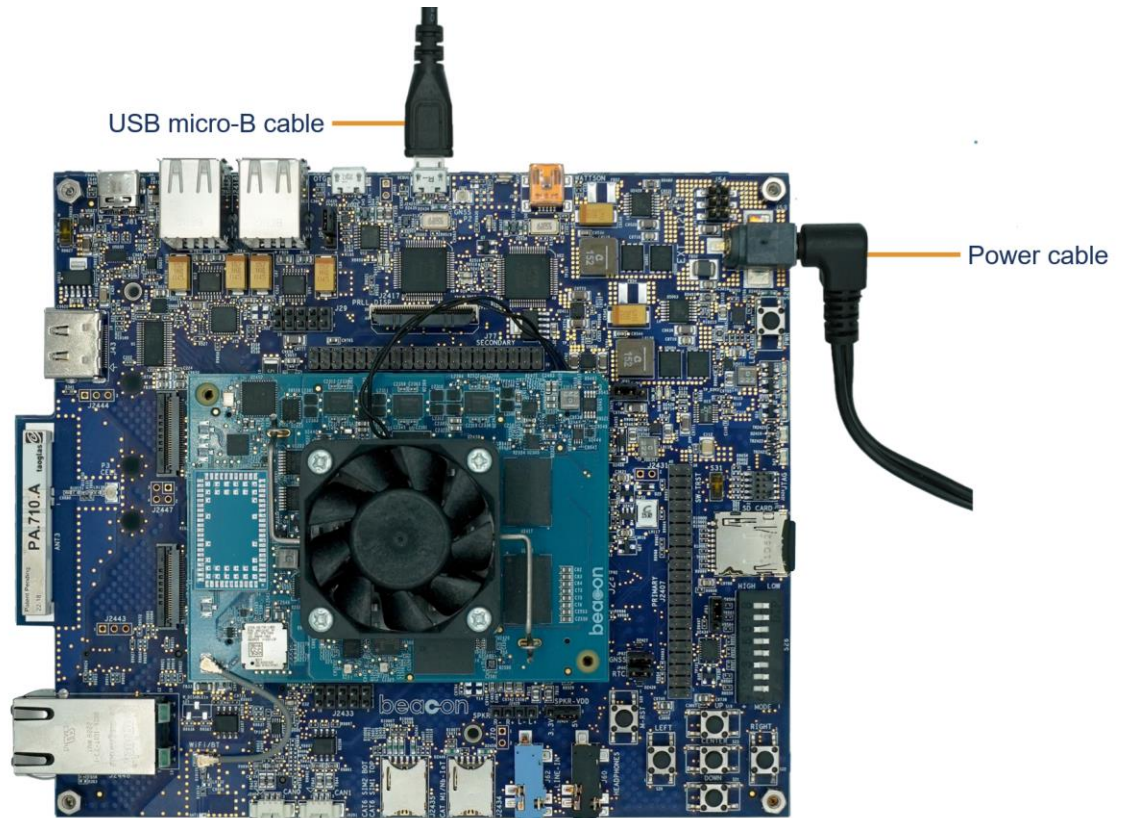

Figure 3: Baseboard (Front Side) w/ Cables
2. Plug the power supply into an electrical outlet and the power cable output connector into the power-in connector on the baseboard as seen in Figure 3.